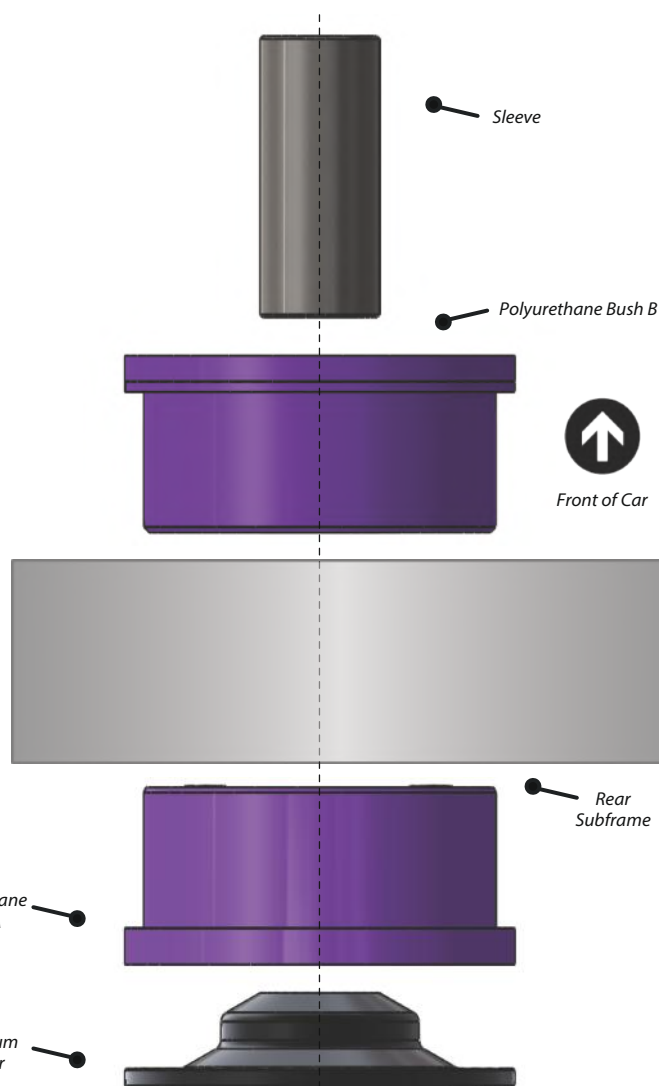

Figure 1
5. Push Bush A into the subframe from the rear, and Bush B into the subframe from the front as shown in Fig1.